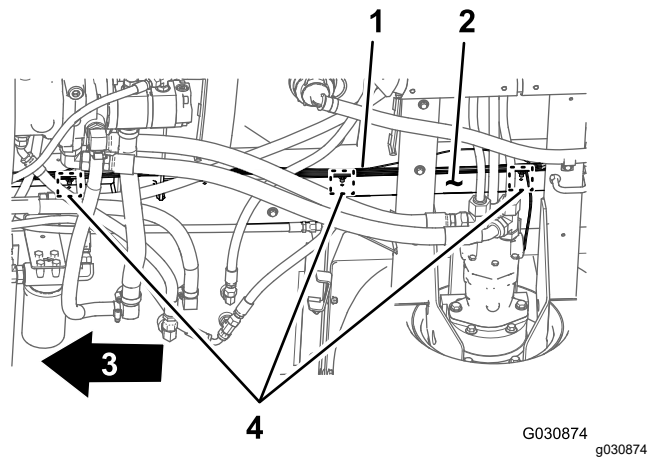

Figure 14
3. Remove the 3 push-in fasteners that secure the rear wire harness to the holes in the right frame tube of the machine (Figure 14).